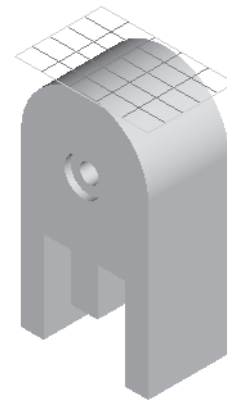

Figure 4-19 Resulting datum plane
4. Change this constraint to **Tangent** from the drop-down list that appears when you click on the constraint in the **References** collector. The datum plane that is created is shown in Figure 4-19.